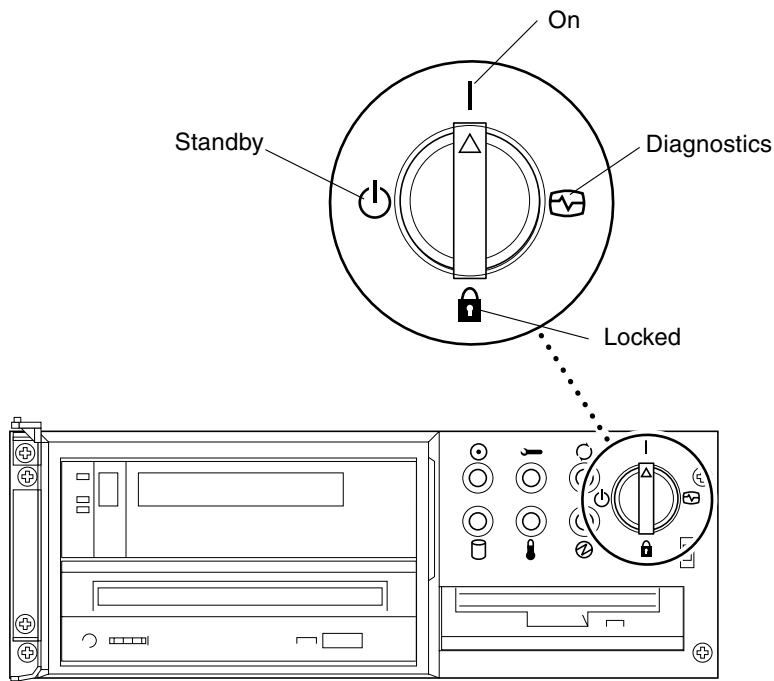

FIGURE 4-4 Sun Enterprise 450 and Sun Ultra 450 Keyswitch Location
When the switch is set to the Locked position (FIGURE 4-4), the flash PROM is write-protected. When the switch is set to the On or Diagnostics position, the flash PROM is write-enabled.
- Turn the keyswitch to the On or Diagnostics position (FIGURE 4-4) before updating the flash PROM.